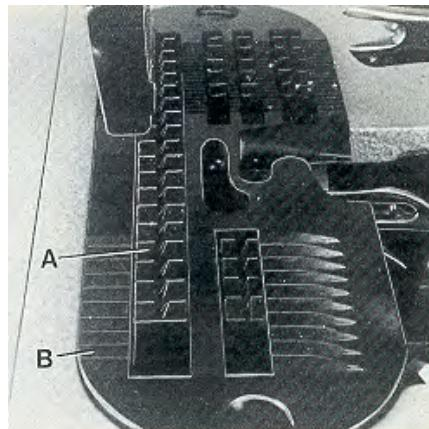
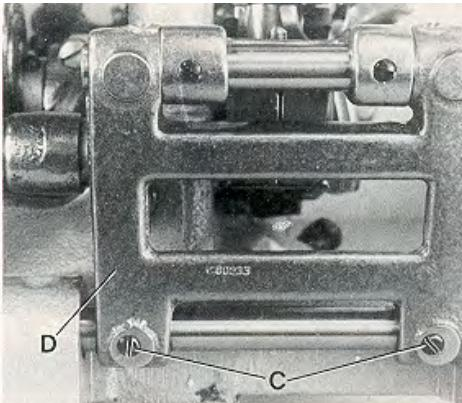

Fig.17
Fig.18
The lower feed dog (A, Fig. 17) should center laterally in the slots of throat plate (B). If an adjustment is necessary loosen the two set screws (C, Fig. 18) and move feed rocker (D) to the left or right as required. Retighten set screws.